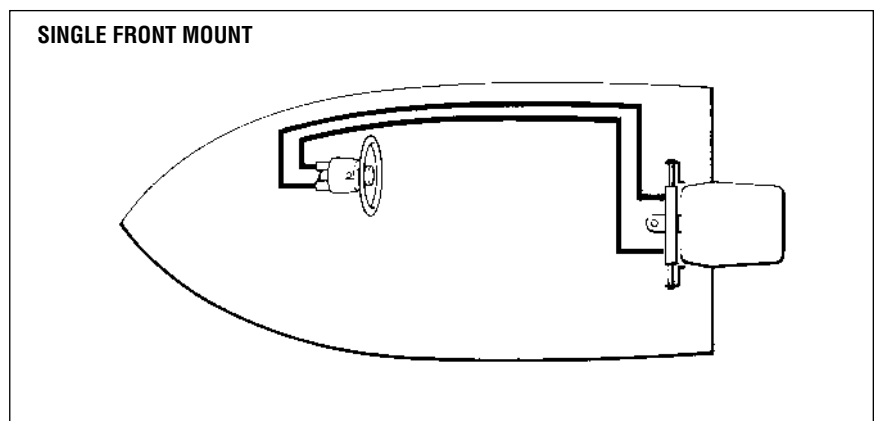

Figure 8.
- See Figure 8 to locate your plumbing diagram.